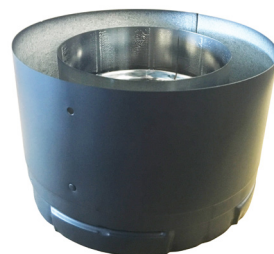

Figure 24: North American Vent Adapter
- This fireplace is shipped with a North American venting adapter (Figure 24). It MUST attach to the vent collar of the fireplace.